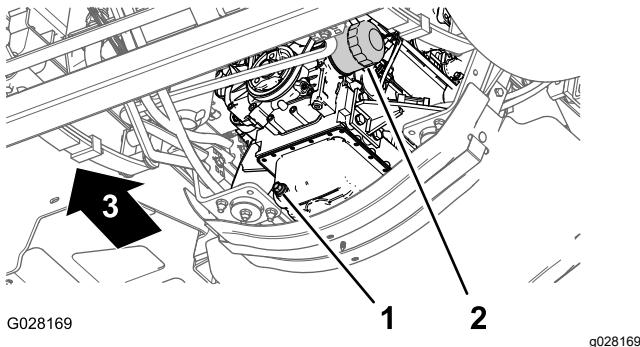

Figure 113
3. Align a drain pan under the engine oil filter (Figure 113).
4. Remove the old oil filter (Figure 113).
8. Install the oil filter to the filter adapter and turn the oil filter clockwise until the rubber gasket contacts the filter adapter, then tighten the filter an additional 1/2 turn (Figure 113).
1. Align a drain pan under the drain plug (Figure 113).
2. Remove the drain plug (Figure 113) and allow the oil to drain completely.